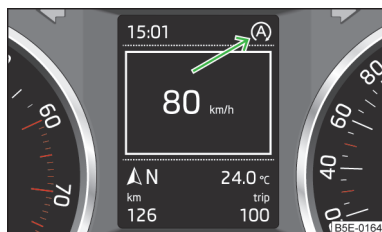

Fig. 143
Automatic engine shut down (STOP phase) takes place. A check warning icon appears in the display (A) » Fig. 143.
Automatic engine shut down takes place. A check warning icon appears in the display (A) » Fig. 143.